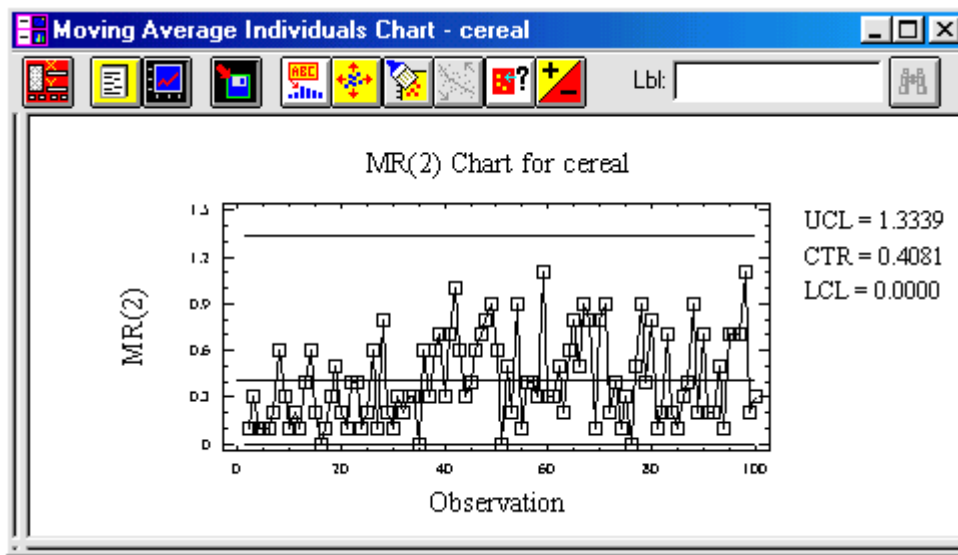

Figure 5-24. MR(2) Chart
The MR(2) Chart option creates a plot of the moving ranges for each of the measurements (see Figure 5-24). It notes the points that are beyond the control limits.